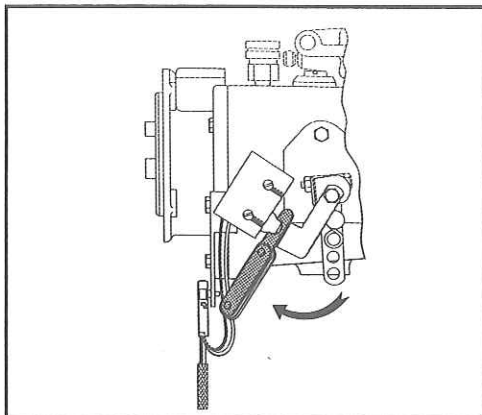

Fig. 13
3. Move the throttle to the low idle position and insert a .050 in. (1.27 mm) feeler gauge between the switch plunger and actuating lever (Fig. 13). Push the switch lever against the switch plunger until the plunger bottoms. Tighten the capscrew to 7 lbft. (10 N·m)